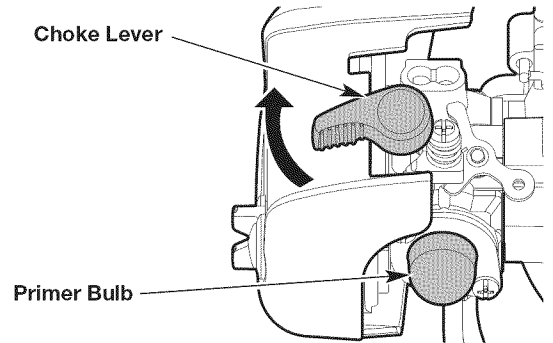

Fig. 8
3. Slowly press and release the primer bulb **10 times** (Fig. 8). If fuel cannot be seen in the primer bulb, press and release the primer bulb until fuel is visible.
4. **DO NOT** squeeze the throttle control. Flip the choke lever clockwise until it clicks (Fig. 8).